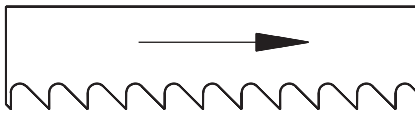

Figure 4 – Blade Direction
2. Make sure the teeth are pointing in the right direction (See Figure 4).